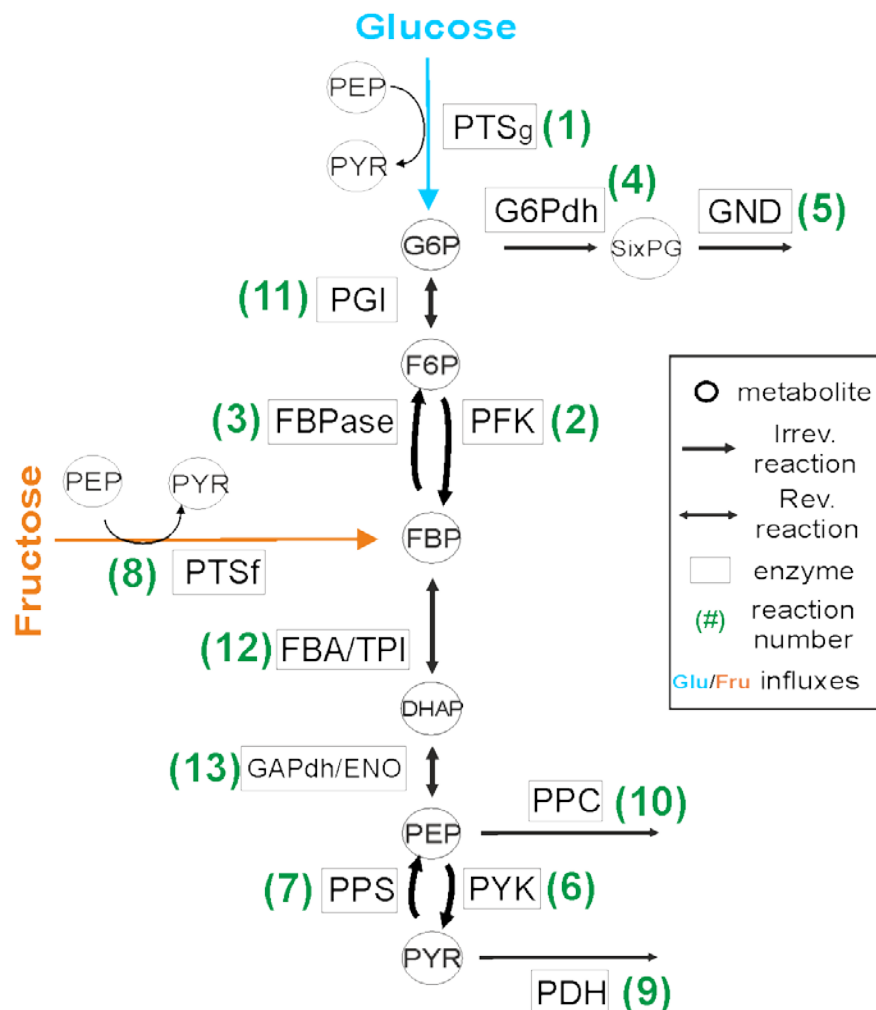

Figure 1: Reaction scheme of Glycolysis
Imagine you were given the topology of a metabolic network and the values of all the parameters that you need. You should be able to create the in silico version of this system, simulate it and study it. The goal of this exercise is to formulate and implement a simple and abstract representation of Glycolysis of the bacterium *E. coli*, given its topology (Figure 1) and its parameters and initial conditions (Tables 2, 3).
- 1) Based on the reaction scheme in Figure 1 and the information and examples in Table 1, fill the gaps in Table 1 with reaction rates of the irreversible and reversible reactions. Irreversible reactions follow the Michaelis Menten law and reversible reactions follow the mass action law.
- 2) Using the provided Matlab file (CreateGlycolysisModel.m) as a basis, implement the ODE model of Glycolysis based on the reaction scheme in Figure 1 and the reaction rates in Table 1. The parameters (V_{max} , K_m) are given in Table 2. The initial concentrations of all the metabolites (species) are given in Table 3.